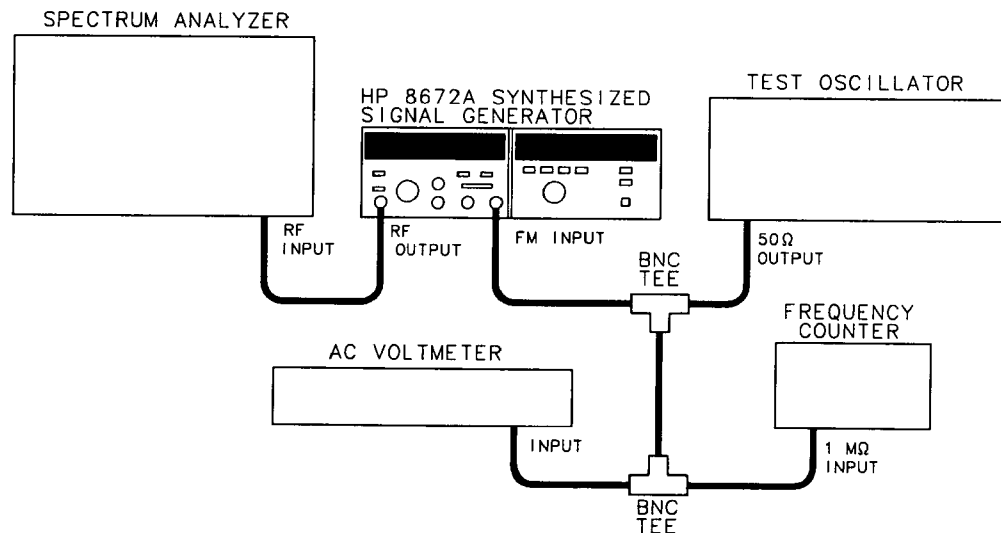

Figure 4-14. FM Frequency Response Test Setup
1. Connect the equipment as shown in Figure 4-14.